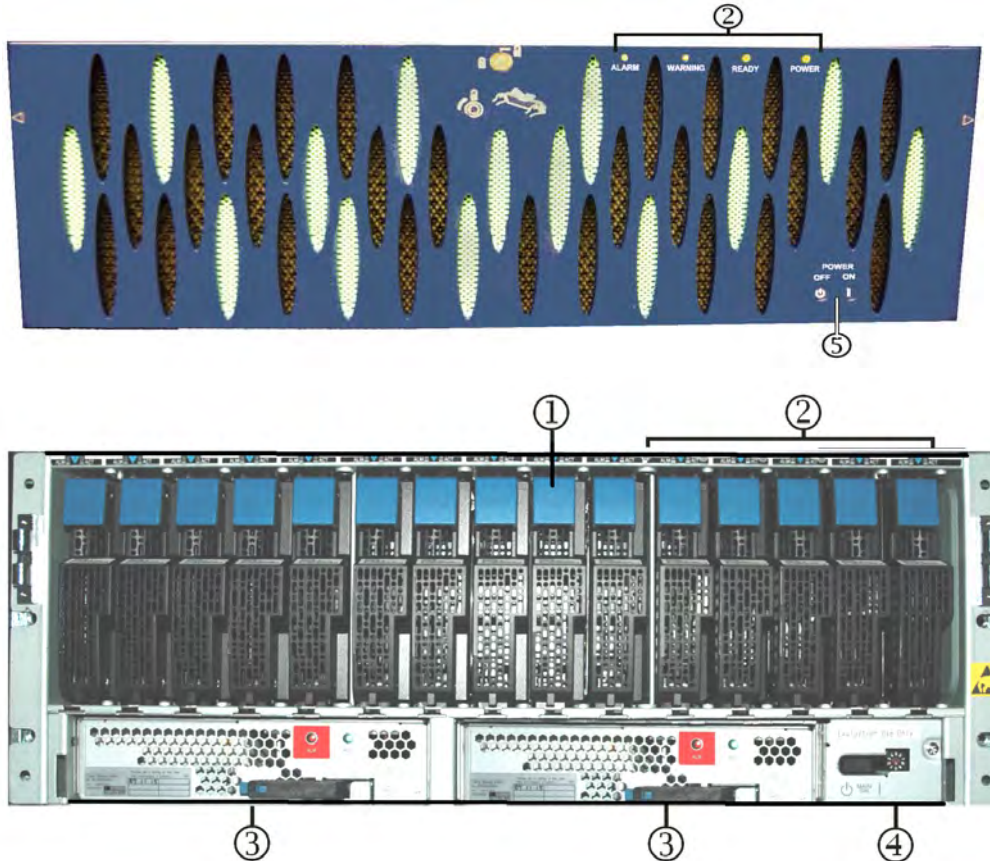
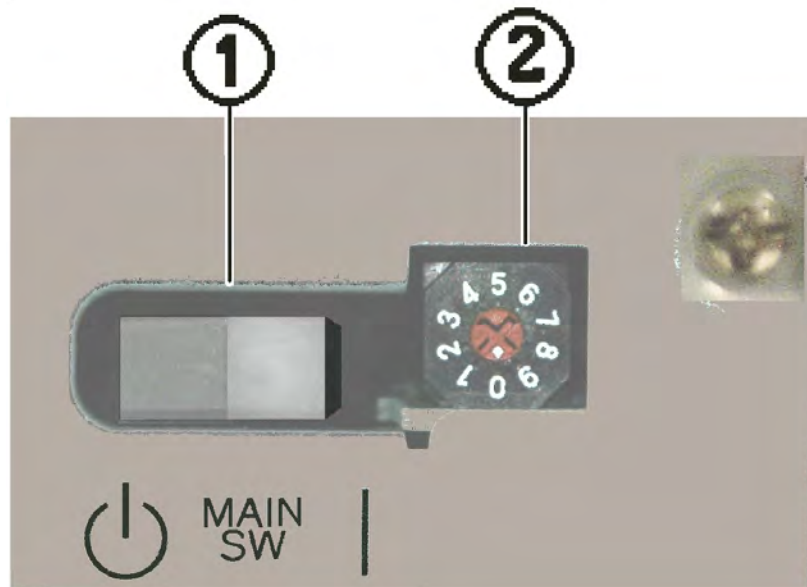

Figure 4-1: AMS 2100 Base Unit Front View
Figure 4-5: Base Unit Switch Panel
As shown by item #1 in Figure 4-1, an AMS 2100/2300 has 15 drive slots in the front of the array. Each slot can accommodate one SATA drive or one SAS drive.
The AMS 2100 and AMS 2300 base units include two cache backup batteries. See items #3 and #4 in Figure 4-1 on page 4-2. Two fully charged batteries can preserve the data in the cache for 24 to 72 hours, depending on the size of the cache and the amount of data in it. See Cache management in Chapter 1 for details.
The base unit switch panel is located at the lower right corner of the front of the array. See item #5 in Figure 4-1 on page 4-2. The panel contains a power on-off switch and a mode switch, as shown in Figure 4-5.
①	<p>Power Switch (labeled Power ON on the front bezel and labeled Main SW on the switch panel).</p> <p>As shown in Figure 4-5, the power ON/OFF switch is labeled MAIN SW.</p> <ul style="list-style-type: none"> • To turn the array power ON, press the right side of the switch (labeled). • To turn the array power OFF, press the left side of the switch.
②	<p>Mode Switch</p> <p>Sets the Uninterruptable Power Supply (UPS) mode to either Local Mode or one of three remote modes. Leave this switch in the local mode (0) position.</p>